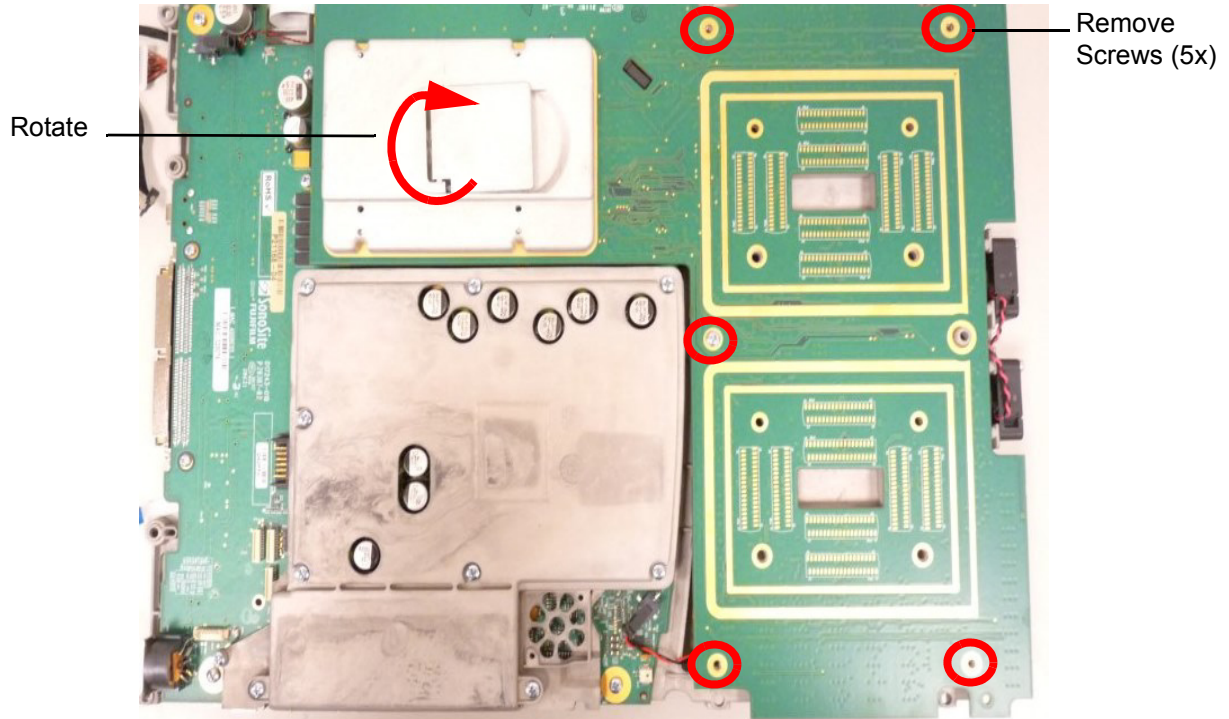

Figure 6.13 DTC Removal
- 3 Turn Mid-Frame Assembly over and orient per Figure 6.13
- 4 Remove five screws per Figure 6.13